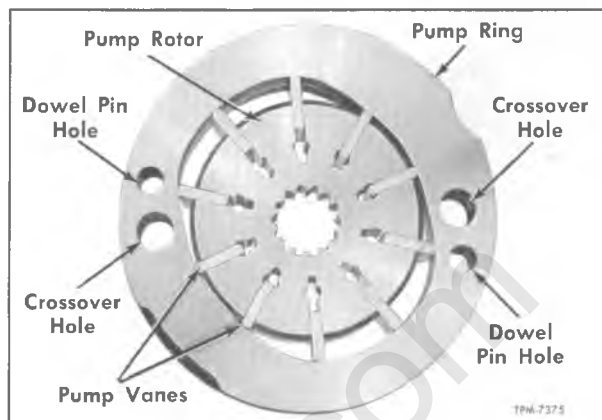

Figure 5—Cross Section of Rotor and Vanes in Pump
NOTE: Refer to figures 5 and 6.
As the drive shaft rotates the rotor, the vanes follow the cam surface in the pump ring. This cam consists of two rising and falling areas which cause a complete pumping cycle to occur every 180 degrees of rotation (fig. 5).
The spaces between rotor vanes pick up oil on the rising portions of the cam from two openings between thrust plate and pump ring and from opening between the pressure plate and pump ring. This oil is discharged on the falling portion of the cam through two openings in the pressure plate and two openings in the thrust plate which are connected to openings in the pressure plate by cross-over holes in the pump ring (fig. 5). The oil passes through the pressure plate into cavity (1) behind it. A portion of this oil is directed back through other passages in the pressure plate so that it may enter behind the vanes forcing them to follow the cam surface of the pump ring (fig. 6B).